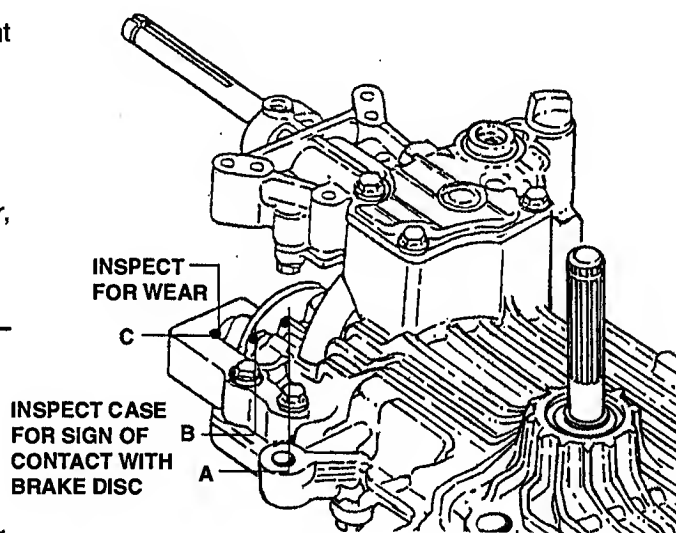

FIGURE 4.2
1. Inspect the case at points **(A)** and **(B)** for signs of contact with the brake disc. See Figure 4.2.